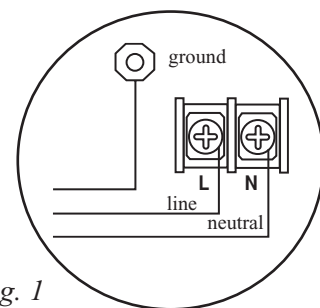

Fig. 1
2. Connect green lead to earth ground (*Fig 1*). Connect the line [L] and neutral [N] terminals to a separate unswitched AC circuit (120VAC, 60Hz) dedicated to the Fire Alarm System.